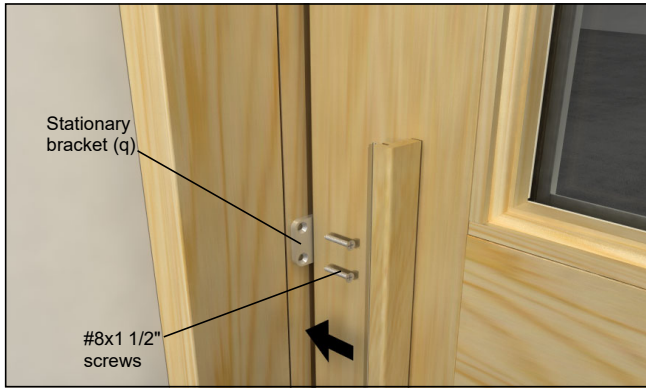

Figure 43
4. Install stationary panel from the exterior. Tilt top into place and slide the bottom of the panel onto the sill. Slide stationary panel back tight against the side jamb and fasten stationary bracket to jamb with #8x1 1/2 inch screws. See figure 43.